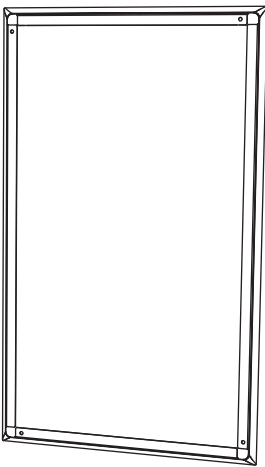

Fig. 3. Paint Mask Installed
2. Press the paint mask into the front of the frame, where it will be kept in place by magnets. This mask is left in place while the wall and frame surround are painted (Fig.3).